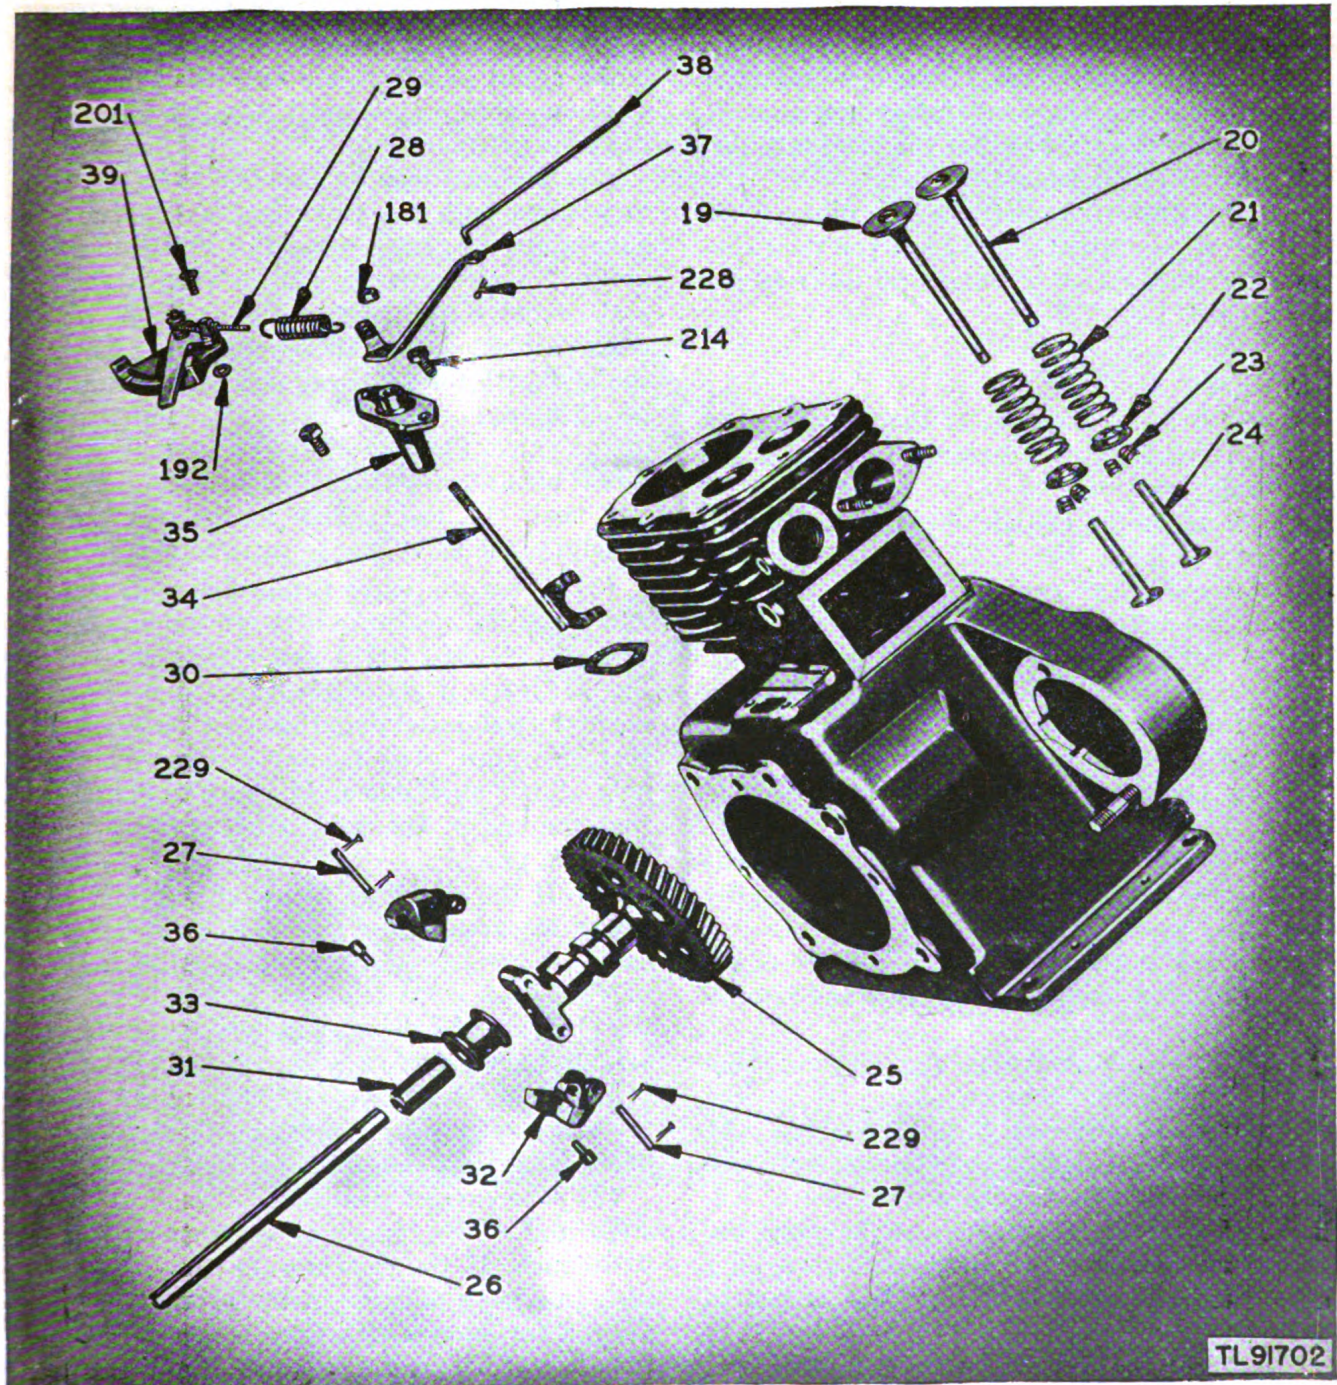
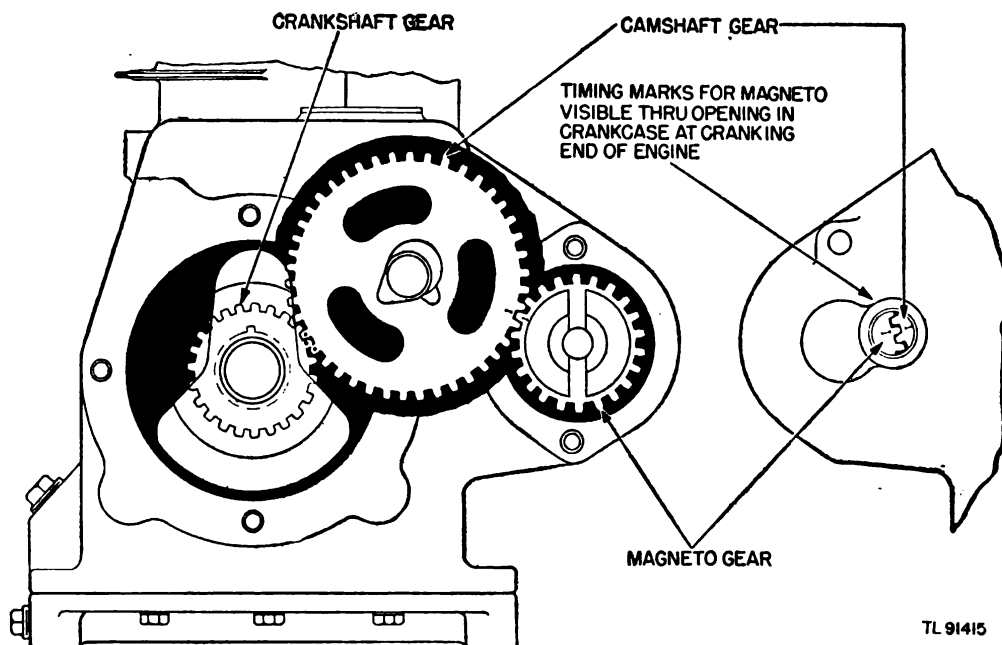
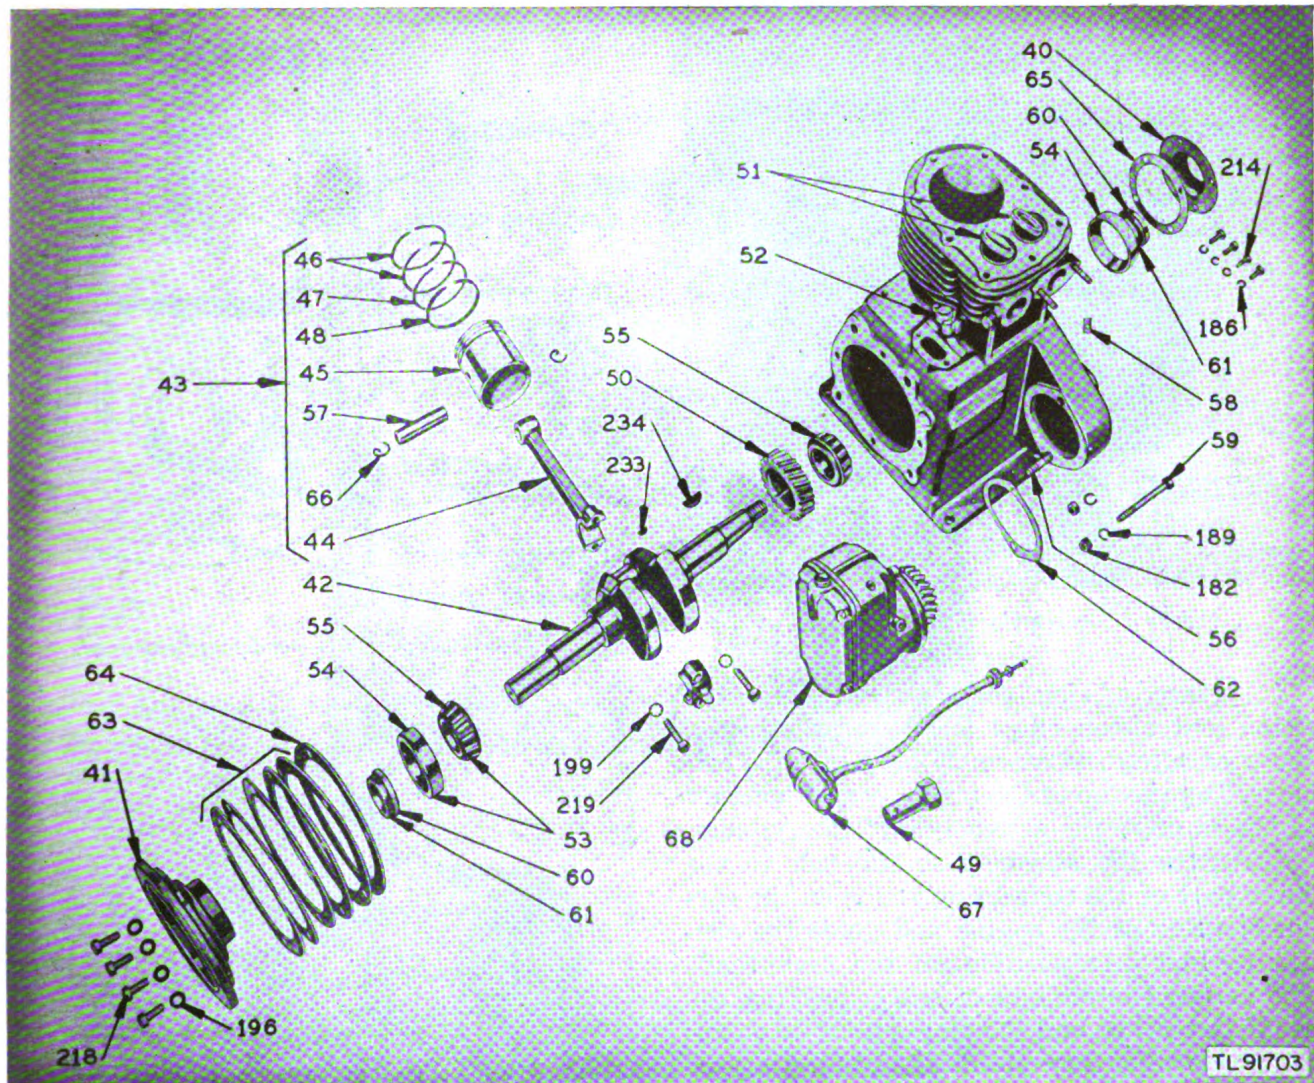

Figure 75. Valves, governor, and camshaft.
Figure 78. Timing diagram.
Figure 80. Crankshaft, bearing plate, piston, and connecting rod assembly.
rod (fig. 75(38)) from the carburetor.
j. Remove the float-chamber cover screws, lockwashers, cover, and cover gasket. (See fig. 78(211), (183), (120), and (121).)
o. Replace the air cleaner (fig. 32) and reconnect the governor-control rod. (See fig. 75(38).)
b. PROCEDURE FOR CARBON REMOVAL. (1)
With a carbon-scraping tool or narrow putty knife, scrape the carbon from the inside of the cylinder head, the top of the piston (fig. 80 (45)) and from around the valves. (See fig. 75 (19) and (20).) Finish off with a wire brush.
(3) Insert a valve lifter between the valve-spring seat (fig. 75 (22)) and the bottom of the valve-spring chamber. Compress the valve lifter so as to compress the valve spring. (See fig. 75 (21).)
(4) Remove the valve-spring retainer locks (fig. 75 (23)) from the valve stems (fig. 75 (19) and (20)).
(5) Mark the valves so as to be sure of returning them to their original seats and remove the valves.
(6) Remove the valve springs and tag them so as to replace them correctly.
b. CLEANING AND GRINDING OF VALVES. (1) Scrape as much carbon as possible from the valves and clean them with a wire brush. Examine the valves for evidence of burning, excessive wear of the stems, and possible warping or bending. Replace any valve that is not in good condition.
(2) Select the first valve to be ground and place a light coil spring over the valve stem. This spring should be just heavy and long enough to lift the weight of the valve from its seat. Coat the face of the valve with a light, even coating of valve grinding compound and place it in position on the seat (fig. 75 (22))
(3) Make sure the valve tappet (fig. 75 (24)) is at its lowest point. Using a valve-grinding tool, bear down lightly on the valve and rotate it back and forth on its seat. Permit the spring to lift the valve every few rotations and give it a one-half turn while clear of the seat. Bear down again and continue the rotating action. Continue this action until a satisfactory seat has been ground.
(4) The seat may be assumed to be satisfactory when both the valve face and valve seat have a smooth, silvery band of uniform width around the circumference of the valve and valve seat. Remove the valve and wipe it off with a cloth dampened with Diesel oil (DA). Wipe off the seat with the same rag and place a series of pencil marks at close intervals around the face of the valve. Place the valve on its seat and rotate it about one-half turn while in contact with the seat. If the pencil marks are evenly smudged, the valve seat is satisfactory.
(5) Press the valve firmly down on its seat and check the clearance between the valve stem (fig. 75 (19) and (20)) and valve tappet. (See fig. 75 (24).) If the clearance is too close, remove the valve and grind its stem until the correct clearance ((8) below) is reached. Grind only a little at a time and be sure to grind it so that the end of the valve stem is square with the stem proper.
(6) If the clearance from valve stem to tappet is too great after grinding, it will be necessary to replace the valve and grind the new valve to its seat.
(7) Wash the valves and valve parts in Diesel oil, and be sure to clean any grinding compound from other parts of the engine. Check the valve springs by comparing them with new ones and replace those that are not satisfactory.
(8) The correct clearance between the valve stem and valve tappet is between 0.010 and 0.016 inch. If the clearance is less than 0.010 inch the valve must be removed and the stem ground for correct clearance. The clearance of the valve stem in the valve-stem guide should be between 0.003 and 0.005 inch.
(9) Reassemble the valves and other engine parts by reversing the operations for their disassembly. Make sure that all gaskets, washers, and lockwashers are replaced. Use new gaskets if the old gaskets are no longer serviceable.
from the magneto. (See fig. 41 (136).) Remove the cap screws (fig. 80 (59)) that hold the magneto to the engine base and remove the magneto assembly.
b. In replacing the magneto, turn the engine crankshaft until the mark on the camshaft gear is visible through the peep-hole in the front of the gear-case. (See fig. 78.) Turn the magneto gear so that the marked tooth will mesh with the mark on the camshaft gear. Place the magneto-mounting gasket in place and slip the magneto into place. Check to be sure that the timing gears are properly meshed (fig. 78), and fasten the magneto in place with the two cap screws, lockwashers, and nuts. (See fig. 80(59), (189), and (182). Replace the ignition wire and shielding in their original position. Be sure to push the ignition wire all the way down into the terminal.
a. REMOVAL. (1) Removal of the oil pump
(2) With the engine base removed, remove the two cap screws (fig. 80 (219 and 199)) and washers that hold the connecting-rod bearing cap to the lower end of the connecting rod and remove the bearing cap. With this cap removed, tap the lower end of the connecting rod with a hammer handle and push the piston and connecting rod up through the cylinder bore. Grasp the top of the piston and pull the assembly (fig. 80 (43)) out of the cylinder.
(3) Before withdrawing the piston from the cylinder, check the clearance between the skirt of the piston and the cylinder bore. This check must be made with the piston in a normal position within the cylinder bore. The correct clear-
(2) Place a ring compressor around the piston and piston rings and lower the piston and connecting rod assembly back into the cylinder. Tap the top of the piston with a hammer handle to drive the assembly into the cylinder.
(3) Turn the assembly so the hole in the lower part of the connecting rod is on the carburetor side of the engine and guide the connecting rod into position on the crankshaft. The cap and lower end of the connecting rod are both marked and the marks must be on the same side when assembled. The connecting-rod bearing should have a clearance of between 0.001 and 0.002 inch on the crankshaft (fig. 80(42)) and a side clearance of between 0.006 and 0.010 inch. Replace the cap screws and washers and turn them up tight.